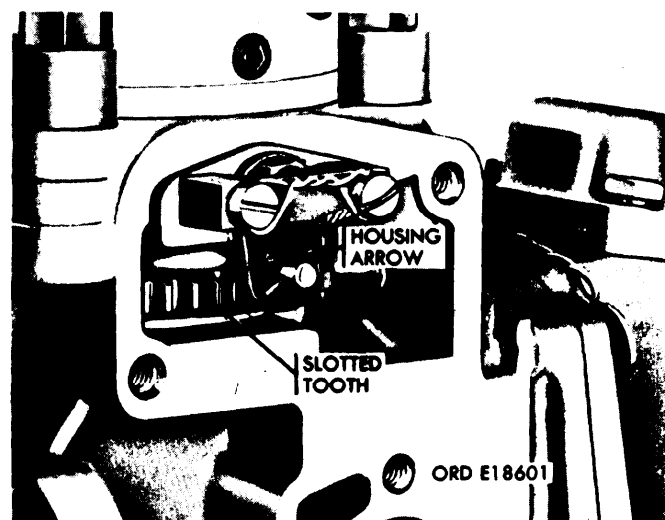

Figure 3-167. Alining slotted tooth with arrow on housing.
d. Rotate the test stand drive coupling clockwise (as viewed from the drive end) with the test stand spanner wrench until the slotted, red painted tooth is visible in the timing window on the pump housing (fig. 3-167).